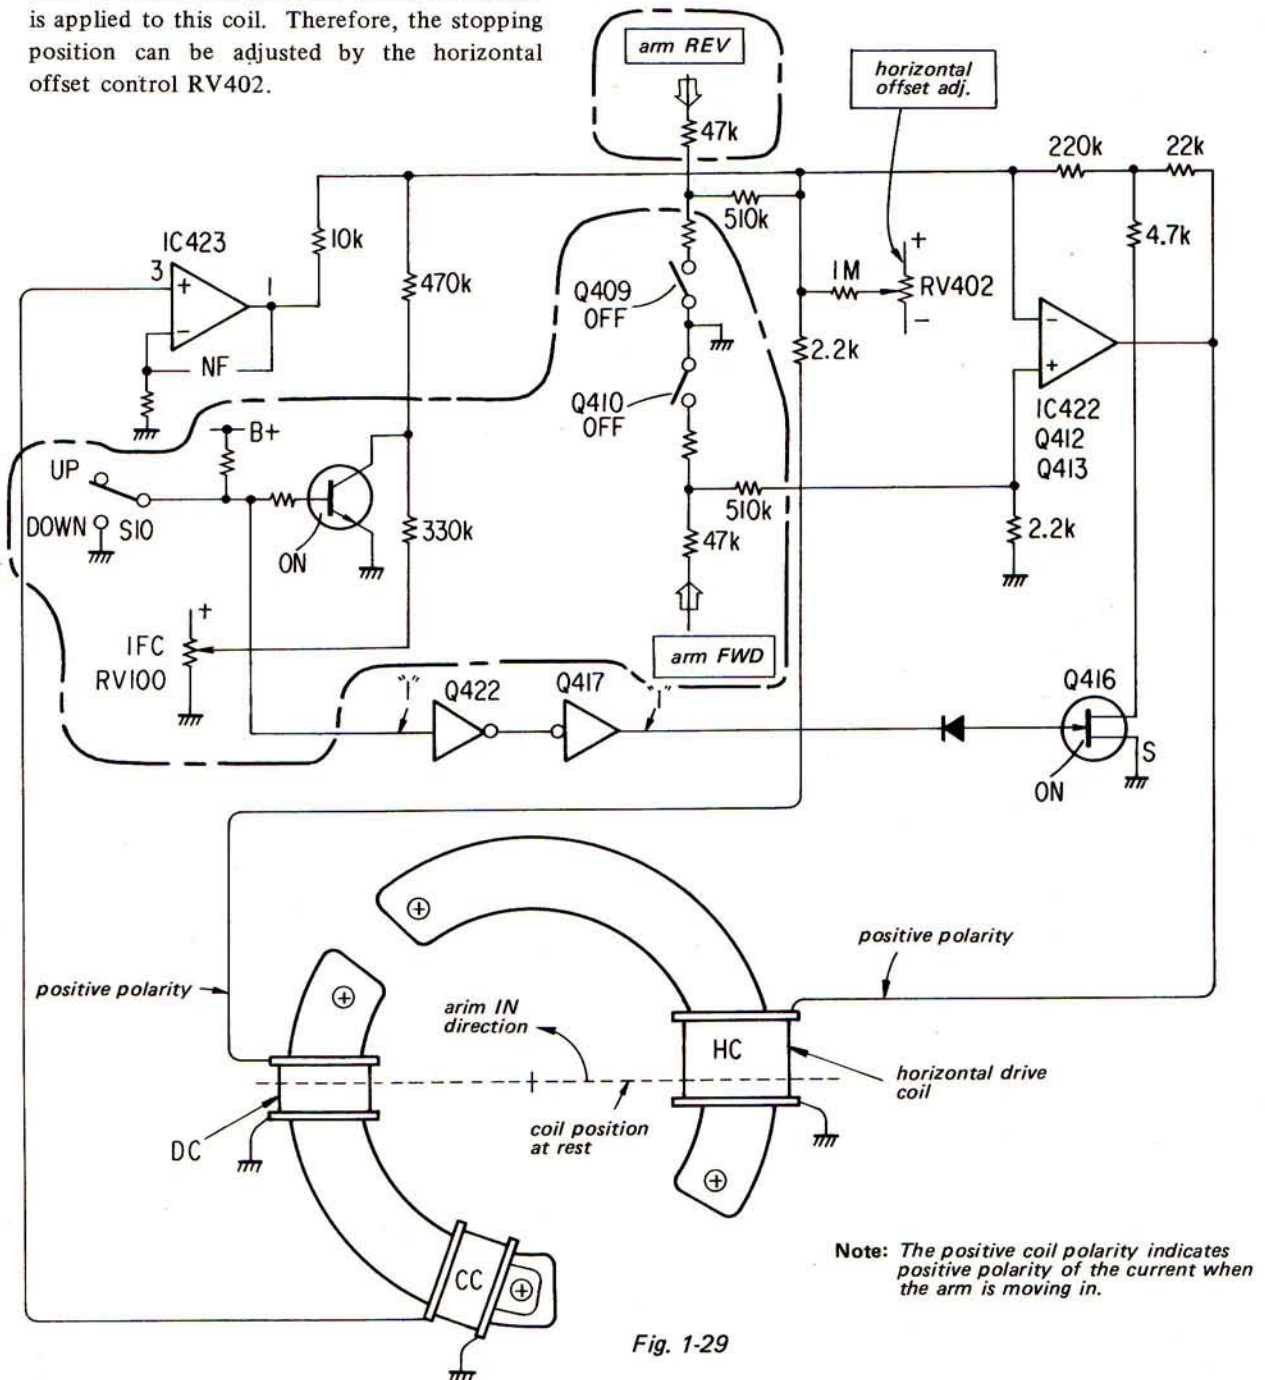

Fig. 1-29
The tonearm does not move in either direction during POWER ON because both the arm FWD and the arm REV signals would be off. This is indicated in Fig. 1-29.
As shown in Fig. 1-29, the portion enclosed within the line — — — will be ignored during POWER ON because of the negative feedback (NF) provided by a coil to the high gain amplifier (IC422, Q412, Q413).